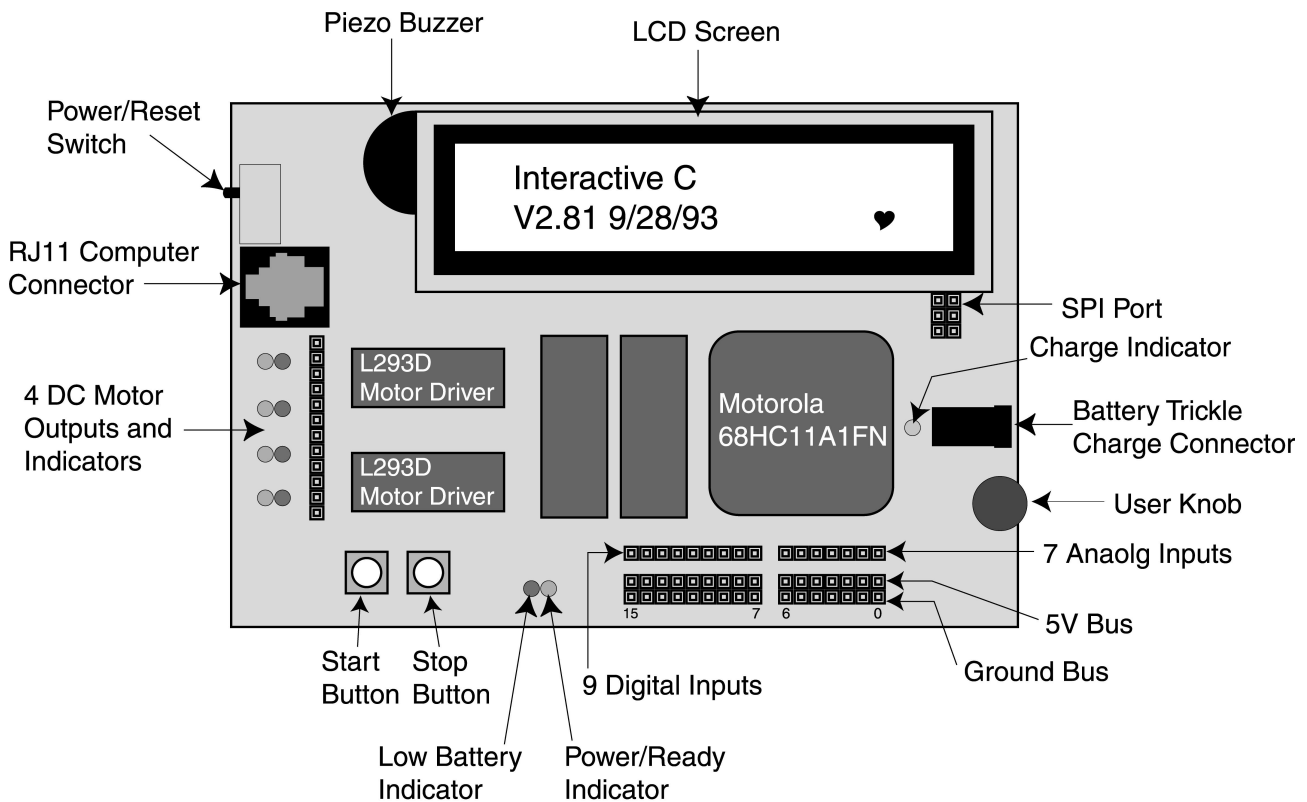

Figure 1. Handy Board labeled features.
The Handy Board is a small experimental board developed by Fred Martin of the MIT Media Laboratories. The main features of the Handy Board are a Motorola 68HC11 microprocessor chip, four DC motor outputs, seven 8-bit analog inputs, nine digital inputs, and a 16x2 LCD screen, as well as other features. It is easily programmable using Interactive C (a C programming language) developed by Randy Sargent of MIT. A diagram of the Handy Board with labeled features is shown below in Figure 1.
- a) One end of the RJ11 modular cable (looks like a telephone cable) should be plugged into the computer connector port on the Handy Board (see Figure 1).
2. Insert the plug-in transformer into a wall outlet. Insert the other end into the receptacle on the Handy Board battery trickle-charge connector (see Figure 1). This step will keep the batteries on the Handy Board charged while you are working on it, but is not necessary if the batteries are fully charged.
Now type `beep();<enter>`. You should hear a short tone coming from the piezo buzzer (see Figure 1). Try typing `tone(800.,5.);<enter>`. You should hear a tone at 800 Hz for 5 seconds. Other commands are included at the end of this lab handout. Explore them later.
Turns on motor *port m* at power *level p*. There are four motor ports on the Handy Board, labeled Motor-0, Motor-1, Motor-2, Motor-3 (see Figures 1 and 3 for location). The power level ranges from 100 for full on forward to -100 for full power in reverse. Although the range of power levels goes from -100 to 100 in increments of 1, there are actually only 15 motor speeds (See Table 2 below).
Refer to Figure 1 for the location of the analog and digital ports. Note that these ports are the top of the three strips in that area, and are numbered from right to left. The bottom strip is ground, and the middle strip is a +5 supply voltage that can be used to power sensors. The top strip is for the sensor signal (this is the value that will be read by the **analog** and **digital** functions).
A function that returns the position of the user knob (see Figure 1) as a value between 0 and 255. The knob is a potentiometer whose wiper is connected to an 8-bit analog-to-digital converter.
Returns the value of the button labeled "Start" (see Figure 1). Returns 1 if pressed and 0 if released.
Returns the value of the button labeled "Stop" (see Figure 1). Returns 1 if pressed and 0 if released.